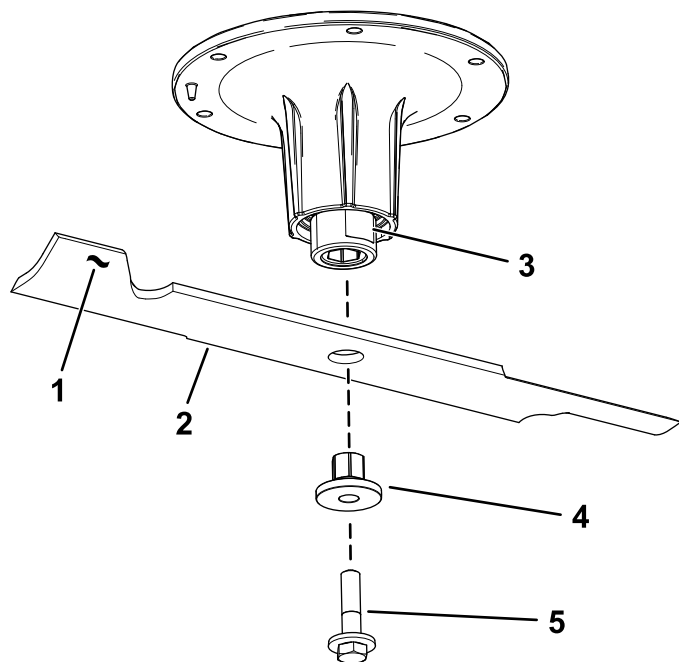

Figure 95
2. Remove the blade bolt, bushing, and blade from the spindle shaft (Figure 95).